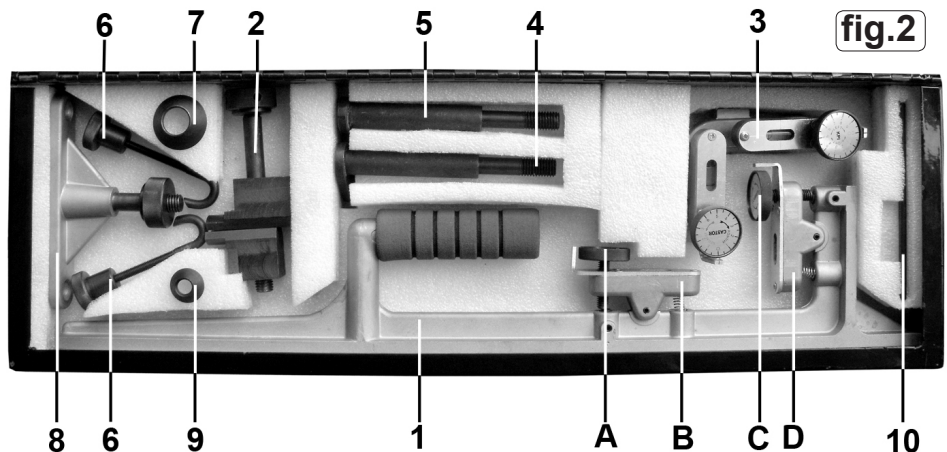

fig.2
- 4.2. To set the gauge up, hold it in the vertical position and adjust the 'camber' dial (fig.2.C) so that '0' is in line with the index mark.
- 4.4. Turn the camber dial (fig.2.C) in either direction until the bubble in the spirit level (fig.2.D) is centred. The number of graduations turned through, represents the camber 'in' or camber 'out' in degrees depending on which direction it was necessary to turn the dial.
- 6.1. Check that the floor is level using the camber angle gauge as follows. Turn the dial marked degrees (see fig.2.A) so that '0' is in line with the index pointer. Place the gauge on the floor at right angles to the wheel to be checked (place parallel to the wheel when measuring castor angle). If the bubble in the spirit level is not centred, then the floor is not level. Turn the dial in the required direction until the bubble is centred. The slope of the floor in degrees is represented by the number of graduations turned on the dial.